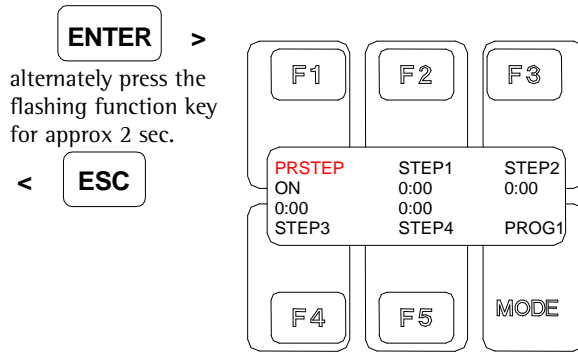

Fig. 13: program definition
- In fig. 13 (program definition) is indicated, whether the PRSTEP is “ON” or “OFF”. Furthermore the step duration is indicated.
Selection of the different “STEPS“ (fig. 13):